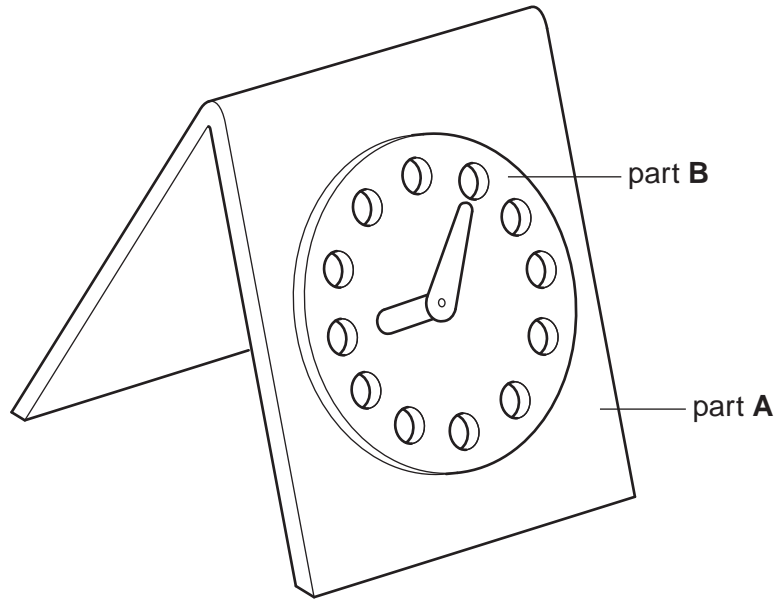

**Fig. 2**
- 2 Fig. 2 shows the development (net) of a leaflet holder made from card.